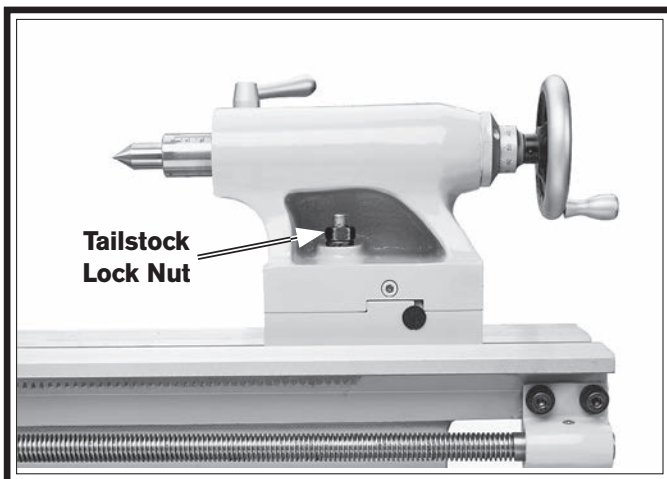

Figure 8. Tailstock lock nut.
2. Loosen the tailstock lock nut (see **Figure 8**), move the tailstock to the end of the bedway, then re-tighten the lock nut to secure it in place. This will help balance the lifting load.